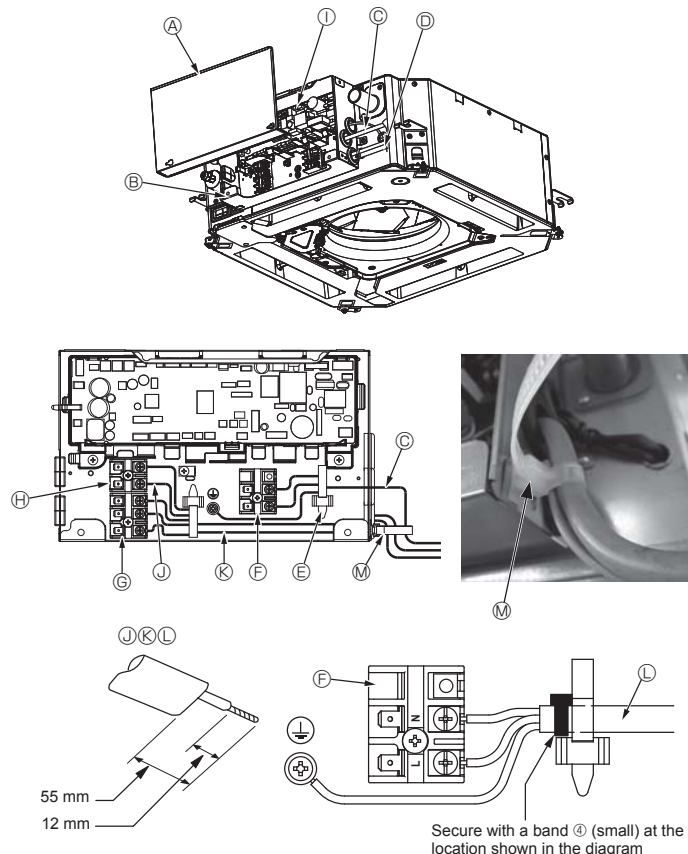
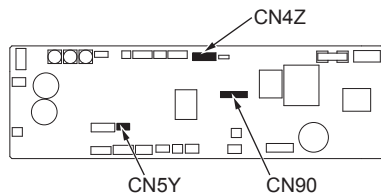
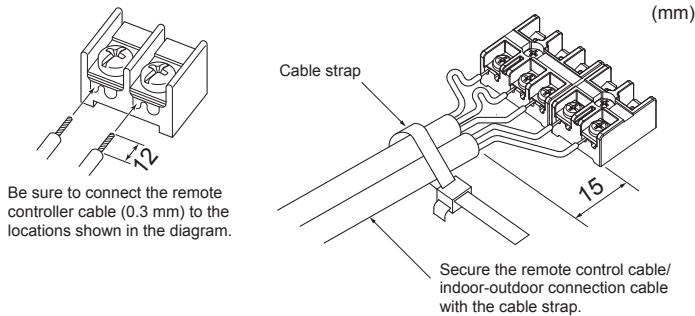

Fig. 4-1
Fig. 4-2
Fig. 4-3
- ① Transparent PVC pipe
4.1. Indoor unit (Fig. 4-1, Fig. 4-2, Fig. 4-3)